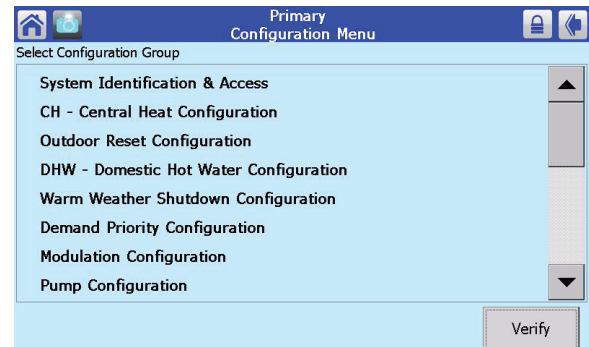

Fig. 61 – Configuration Screen
3. To disable the Master function on this controller, press the Configure button. Figure 61 shows the Configuration screen.